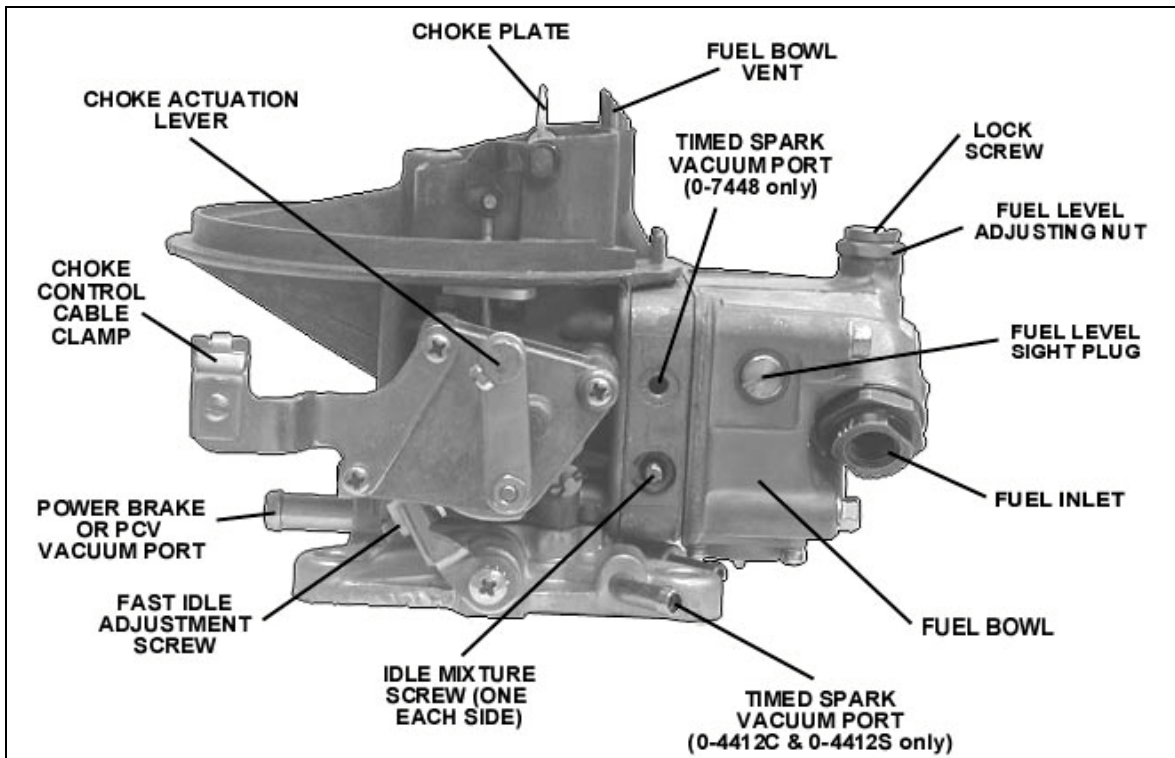

Figure 6
6. Reconnect the appropriate vacuum hoses to the carburetor, noting the correct fitting from Figure 6 and 7. Replace any cracked or dry rotted hoses at this time to prevent any vacuum leaks.
8. Connect the power brake hose to the fitting as shown in Figures 6 or 8.